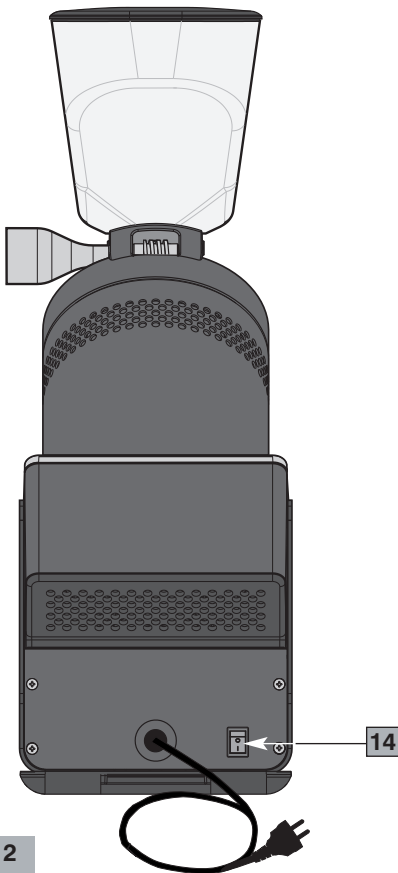

Fig. 2
### Main parts (Fig. 1, Fig. 2, Fig. 3, Fig. 4)
| 5 | Grinding adjustment disc          | 14 | ON-OFF (I-O) switch (Fig. 2) |
Before connecting the plug to the power socket, make sure that the ON-OFF switch (14 Fig. 2) is in position "O" (OFF).
- 2 Turn the ON-OFF switch (14 Fig. 2) to position "I". The panel (7 Fig. 1) lights up (see Fig. 4).